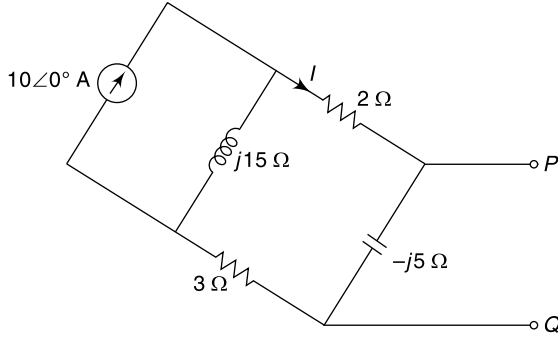

Fig. 14.67
14.79 Obtain Thevenin's equivalent across $P-Q$ in Fig. 14.67.